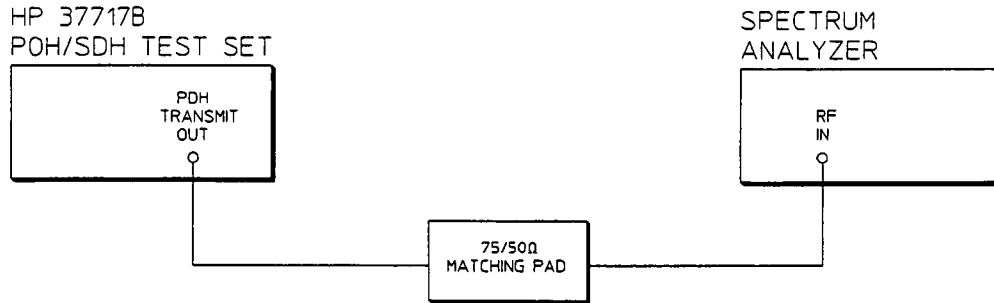

Figure 3-44. TX Jitter Accuracy Test Setup
5. Connect up the equipment as shown in Figure 3-44.